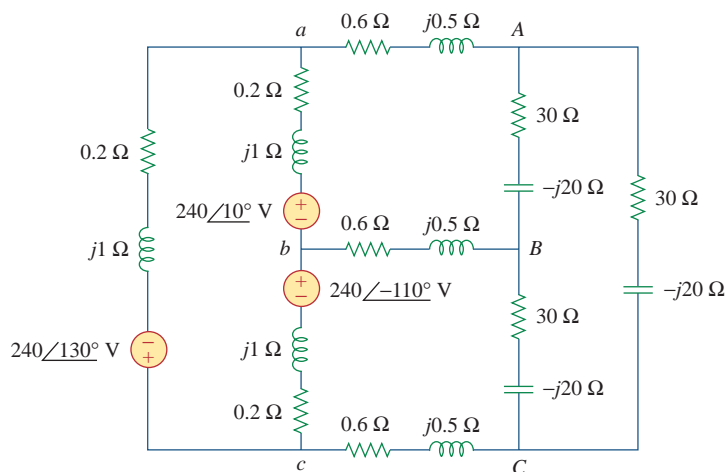

Figure 12.70
- 12.65** A balanced three-phase circuit is shown in Fig. 12.70 on the next page. Use *PSpice* to find the line currents I_{aA} , I_{bB} , and I_{cC} .